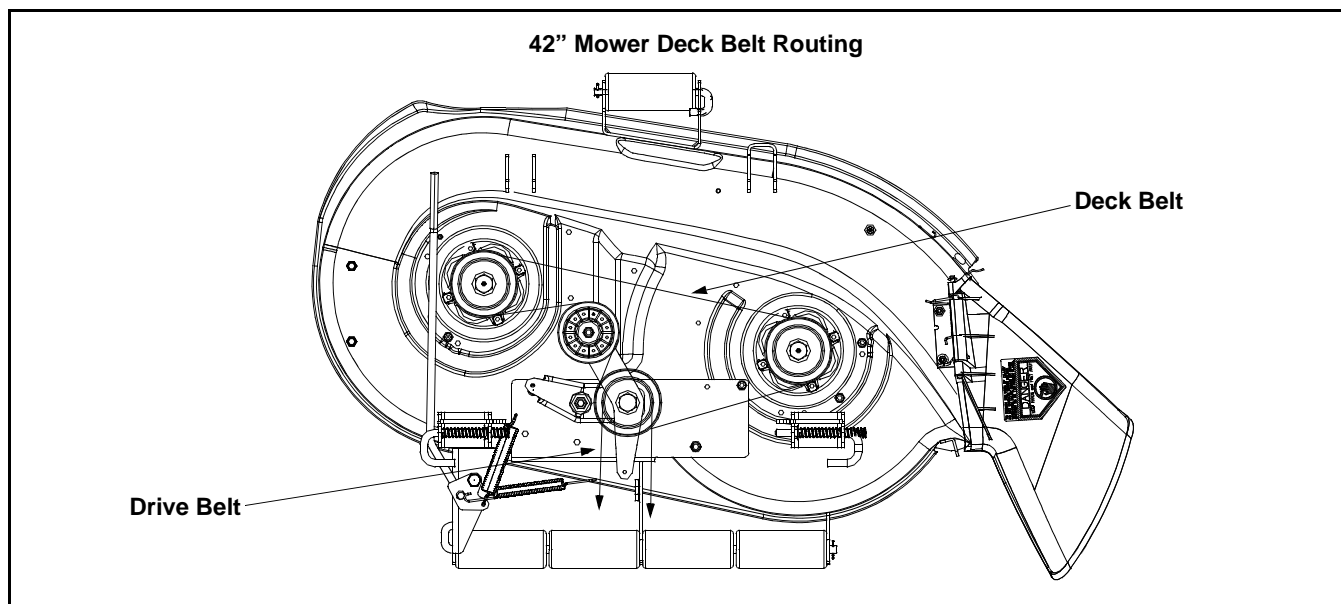

Figure 27
3. Install and route the new mower deck drive belt according to the routing diagram. (See Figure 27)